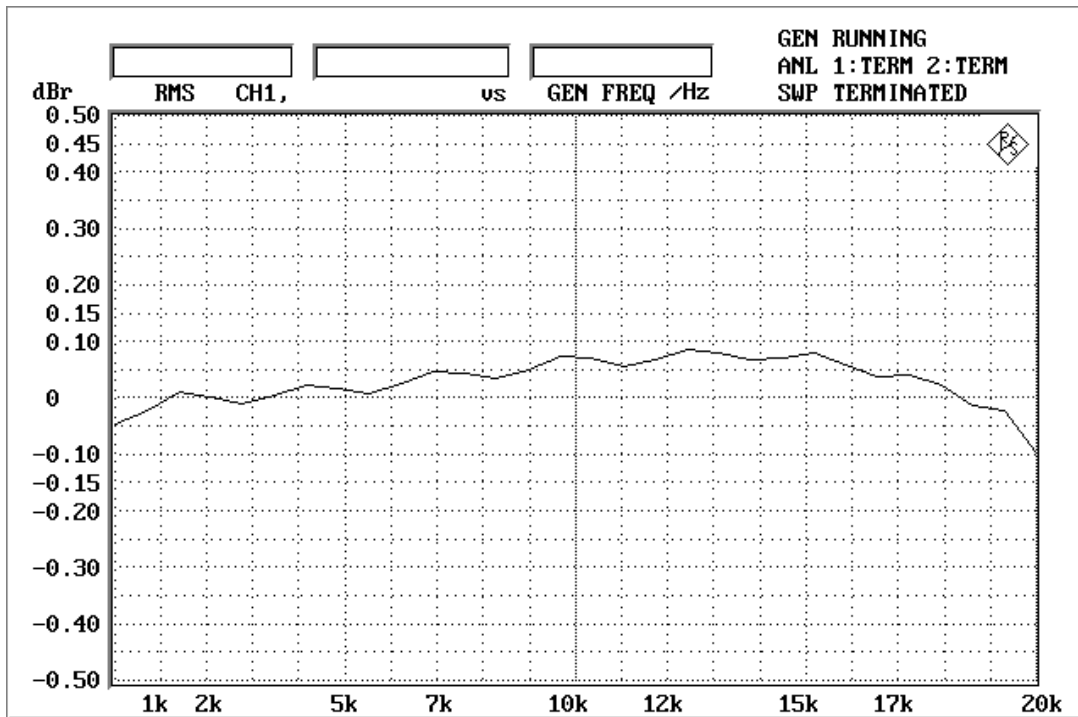

Figure 1-1-4. Frequency response
- Figure 1-1-4. Frequency response